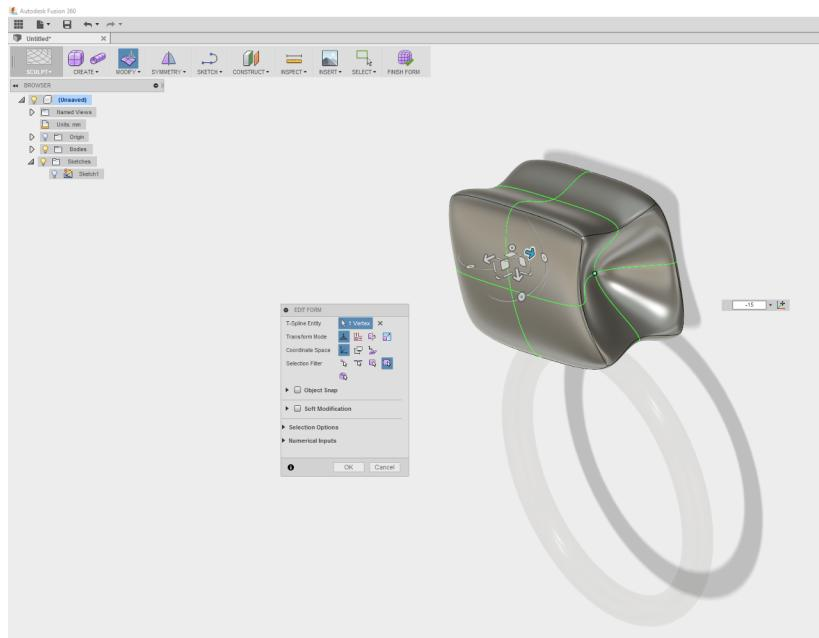

Figure 11-18. Within the *Edit Form* option, a small intersection at the right was selected and dragged inward
23. Click the intersection point between all four faces on the righthand side of the cube. Drag that point inward as shown in Figure 11-18.